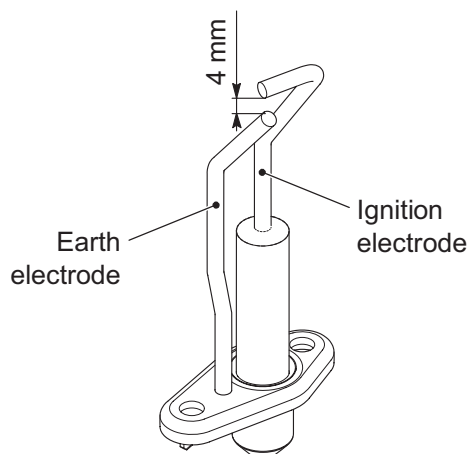
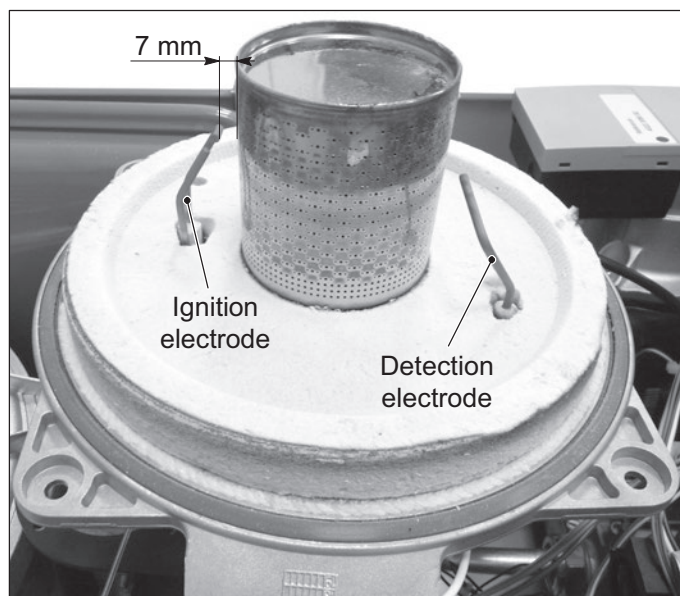

Figure 11.7
Figure 11.8
- 2 Check for the correct distance between the metallic edges of the ignition electrode (see Figure 11.7 - Figure 11.8).
The detection electrode in Figure 11.8 also functions as a sensor for the correct drainage of the condensate.